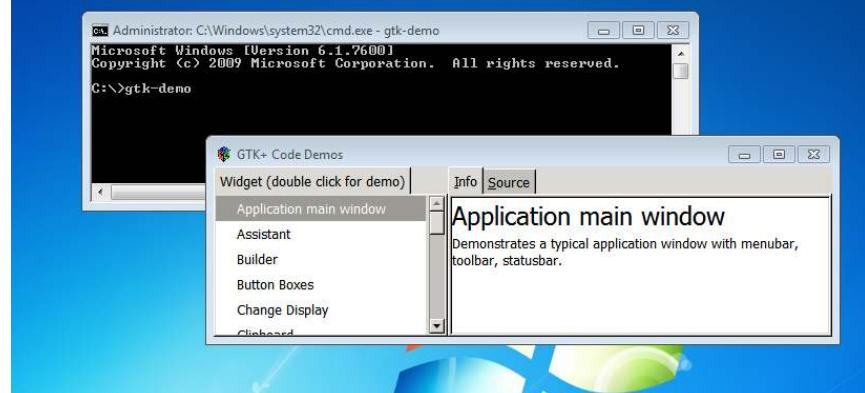

Figure 5-21. Testing the gtk-demo program
4. Test the installation. Open a command prompt (Start→All Programs→Accessories→Command Prompt). Type **gtk-demo** and press Enter (Figure 5-21).